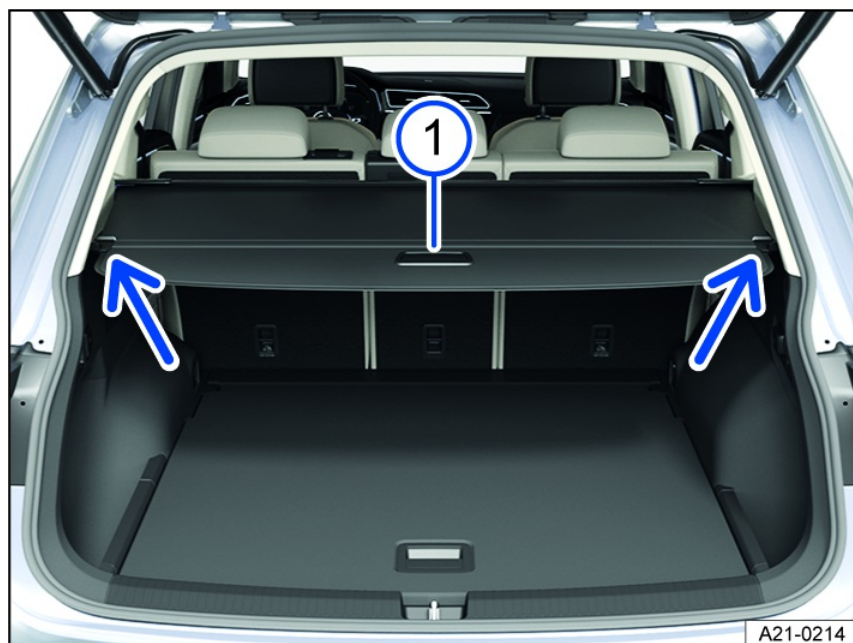

Fig. 156 In the luggage compartment: open the luggage compartment cover (general example).
1. Pull the luggage compartment cover out by the handle fig. 156 ① and pull it upward out of the side retainers (arrows).
1. Pull the luggage compartment cover back by the handle fig. 156 ① and attach it to the anchorage (arrow).